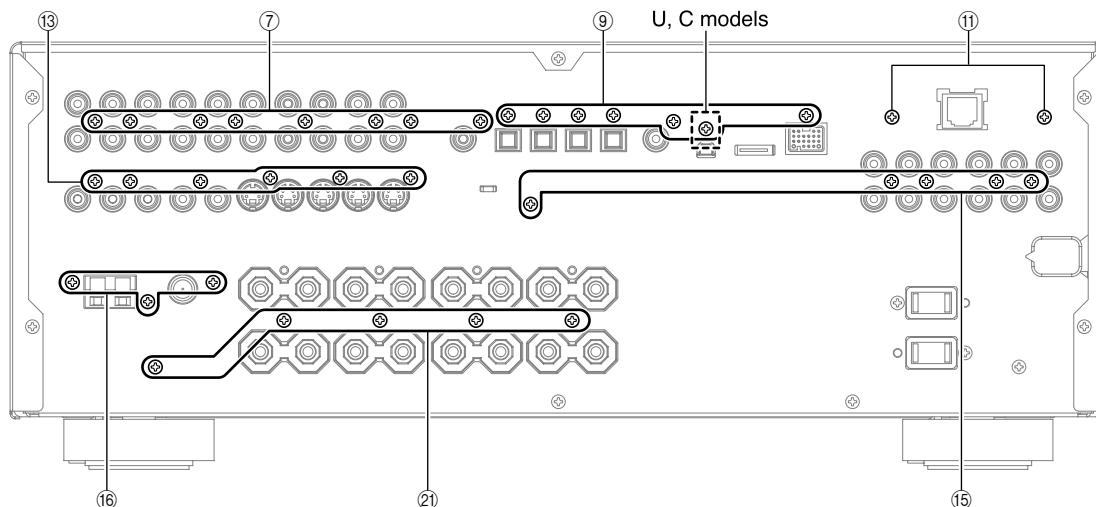

Fig. 4
- b. Remove 6 screws (⑬). (Fig. 4)
- b. Remove 5 screws (⑮). (Fig. 4)
- a. Remove 3 screws (⑯). (Fig. 4)
- c. Remove 5 screws (21). (Fig. 4)